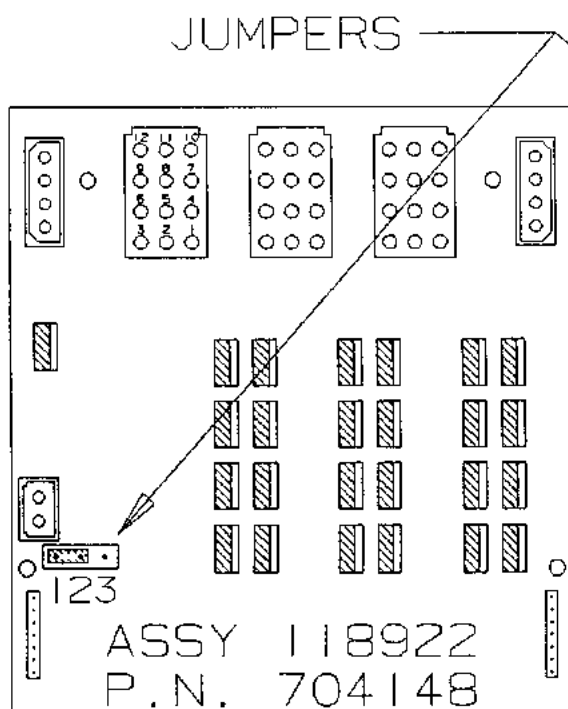

figure 10
- (B) On the driver board (refer to figure 10); Jumper pins 1 & 2 for use of a horn. Jumper pins 2 & 3 for all others.